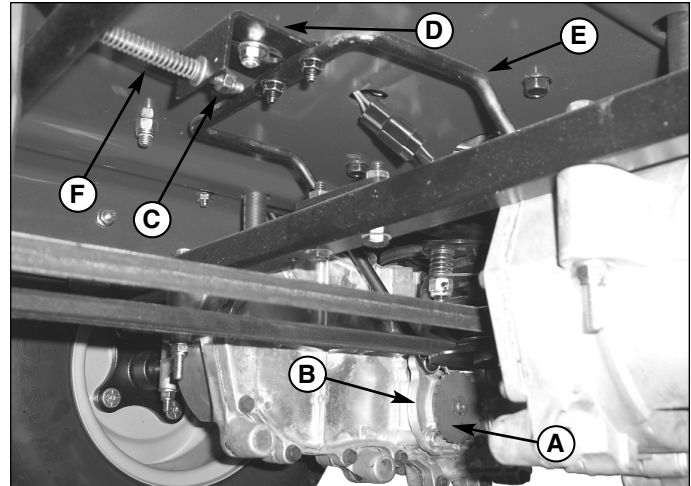

Figure 23a. Parking Brake Adjustment
3. Before attempting brake adjustment, check the brake gear (A, Figure 23a), brake arm (B), park brake bracket (D), brake rod (E), and compression spring (F) for dirt or debris that may affect brake operation.
4. Check to see that the brake arms (B) are engaged against the brake gears (A), with the teeth on the arms meshing with the teeth on the gears.